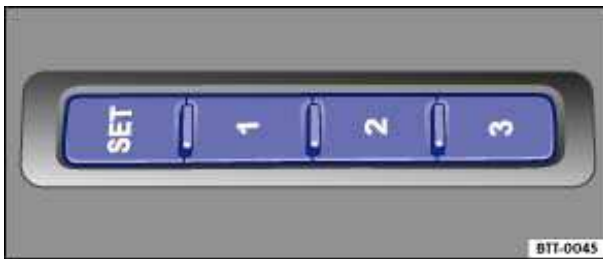

Fig. 66 Memory buttons on the outer side of the driver seat.
- Shift the transmission to Neutral (N).
- Press **SET** for at least 1 second ⇒ fig. 66.